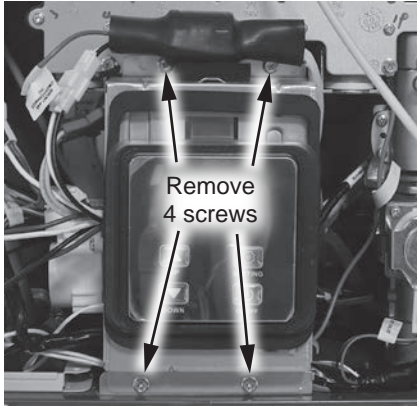

Figure 168 - Removing UIM and bracket screws
- 15 Locate the User Interface Module (UIM) and bracket. Remove the four screws securing bracket to the water heater. Place screws aside in a safe place for reinstallation. See Figure 168.